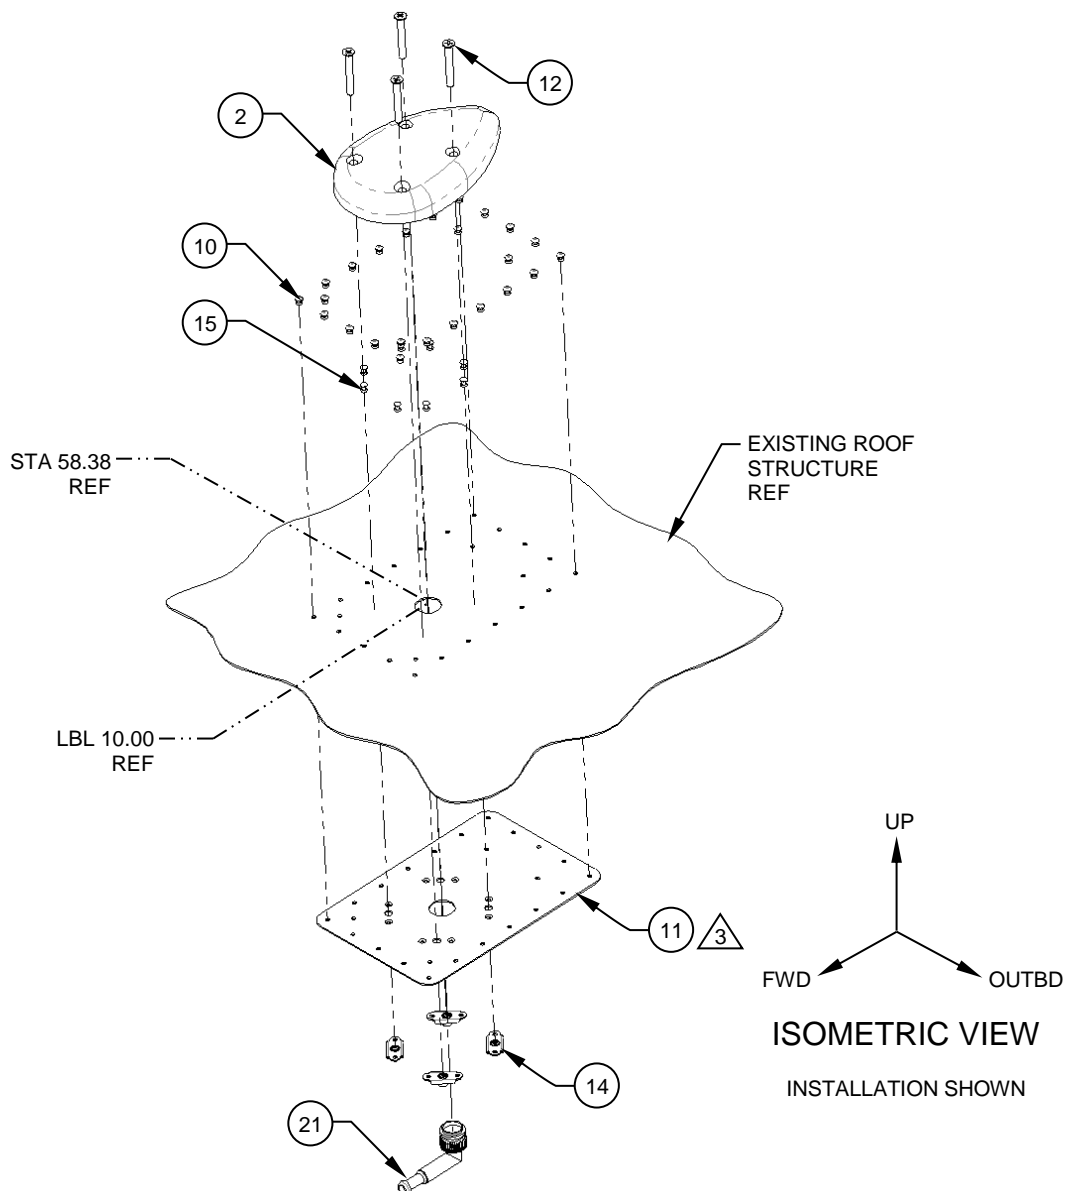

Figure 3
5. Install the Doubler, Detail (Item 11) as shown in preparation for mounting the GPS Antenna (Item 2). Reference Figure 3. When installing the Doubler, Detail (Item 11), ensure that provisions are made to electrically bond/ground the antenna as per the requirements of BHT-ELEC-SPM, chapter 8.
6. Install the GPS Antenna (Item 2) with the provided fasteners. Ensure that the GPS Antenna is electrically bonded/grounded per the requirements of BHT-ELEC-SPM, chapter 8. Reference Figure 3. Apply a fillet of Sealant, Corrosion Inhibitive (Item C01) around the base of the GPS Antenna. If required after installation, coat the area surrounding the GPS antenna (Item 2) with high solids epoxy primer per MIL-PRF-2377, Type 1, Class C2 and polyurethane paint in the appropriate color. Do not coat the GPS antenna.
12. Install the Coax Cable, Assy (Item 13) by fastening the SMA connector to the to the “IN” port of the Splitter (Item 5). Drill Ø.437” holes through frames 205-030-617-099/205-030-617-041 and 205-030-617-029 as applicable. Coat the inside of each hole with primer per MIL-PRF-23377, Type 1, Class C2 and install Grommet, Rubber (Item 25) in each hole once primer has cured. Route the Coax Cable, Assy (Item 13) through the grommets and secure with Cable Tie Mounts (Item 26) and Tie Straps (Item 16). Position the cable tie mounts to avoid interference with 204-030-636-003 Handle, Assy Reference Figures 3, 8 & 9 and Appendix B. Cut the un-terminated end of the cable to length and terminate the end with the provided TNC Connector (Item 21) at the GPS, Antenna (Item 2) Reference Figure 3. Connect the newly terminated end to the GPS, Antenna (Item 2).